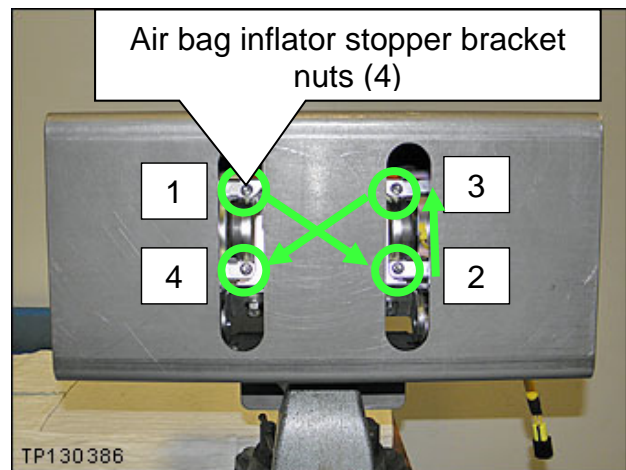

Figure 41
37. Torque the four (4) air bag inflator stopper bracket nuts in the sequence shown in Figure 41.